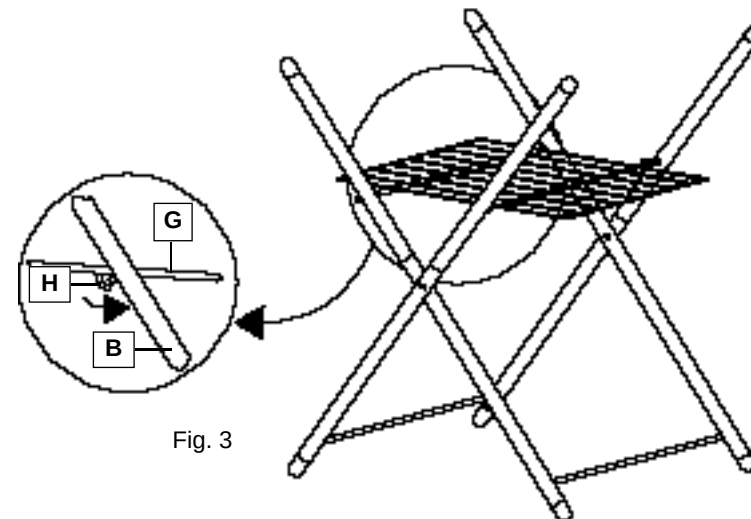

Fig. 3
- 4) The stand is then locked in its correct position by fastening the hooks H on the grille G to the juncture point of the outer stick B (see fig. 3).